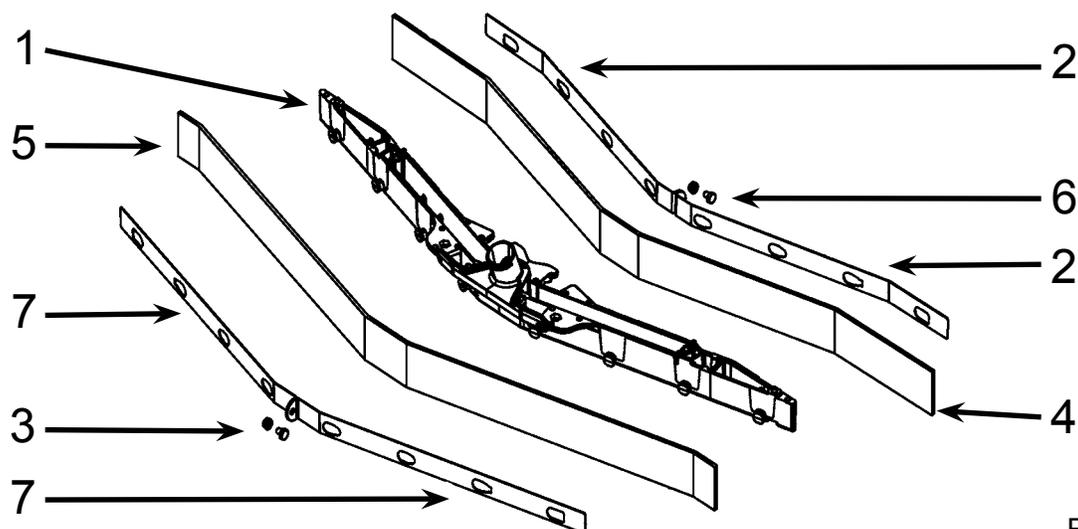

Fig. 12
- Use a screwdriver to unscrew the bolt (fig. 12, ref. 3 or 6);
- Remove the two blade retainers (fig. 12 ref. 2 or 7) by first pushing them towards the body of the squeegee (fig. 12 ref. 1) then extracting them;
- Remove the blade (fig. 12 ref. 4 or 5);
- Reuse the same blade by reversing the edge in contact with the floor until all four edges are worn out, or replace with a new blade, fitting it onto the screws on the body of the squeegee (fig. 12 ref. 1);
- Reposition the two blade retainers (fig. 12 ref. 2 or 7) by centering the widest part of the slots over the fixing screws on the squeegee body (fig. 12 ref. 1), then pushing the blade retainers inwards;
- Screw up the bolt (fig. 12, ref. 3 or 6).